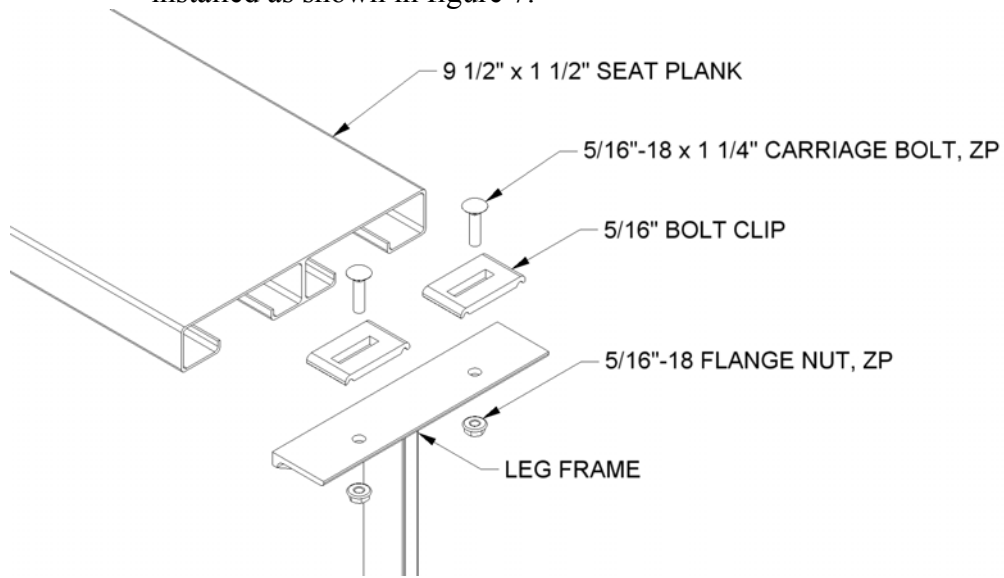
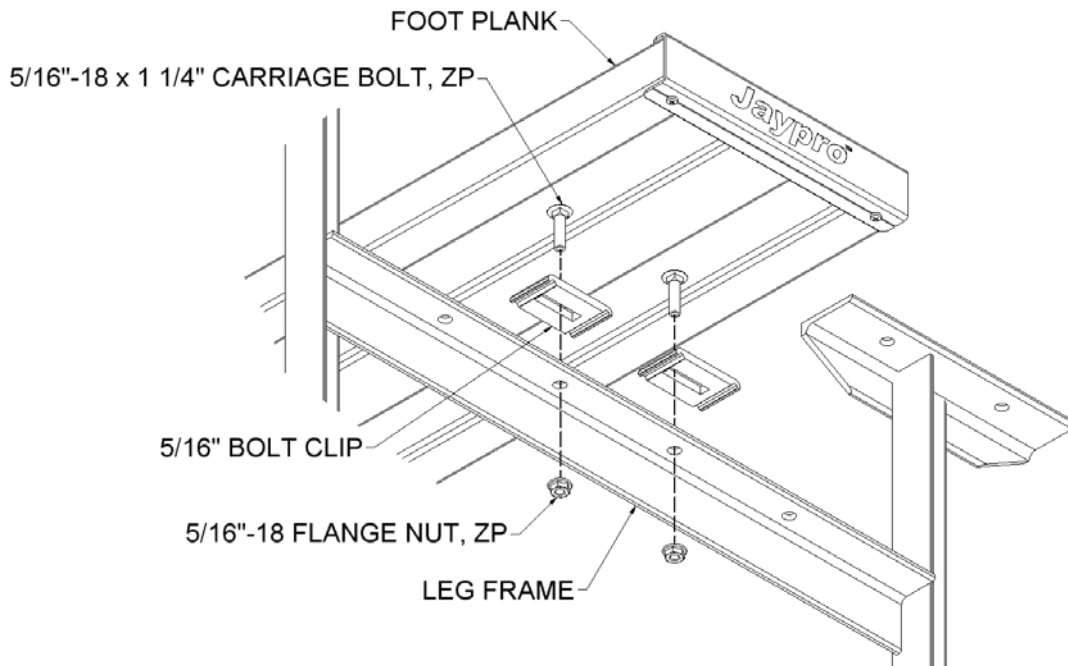
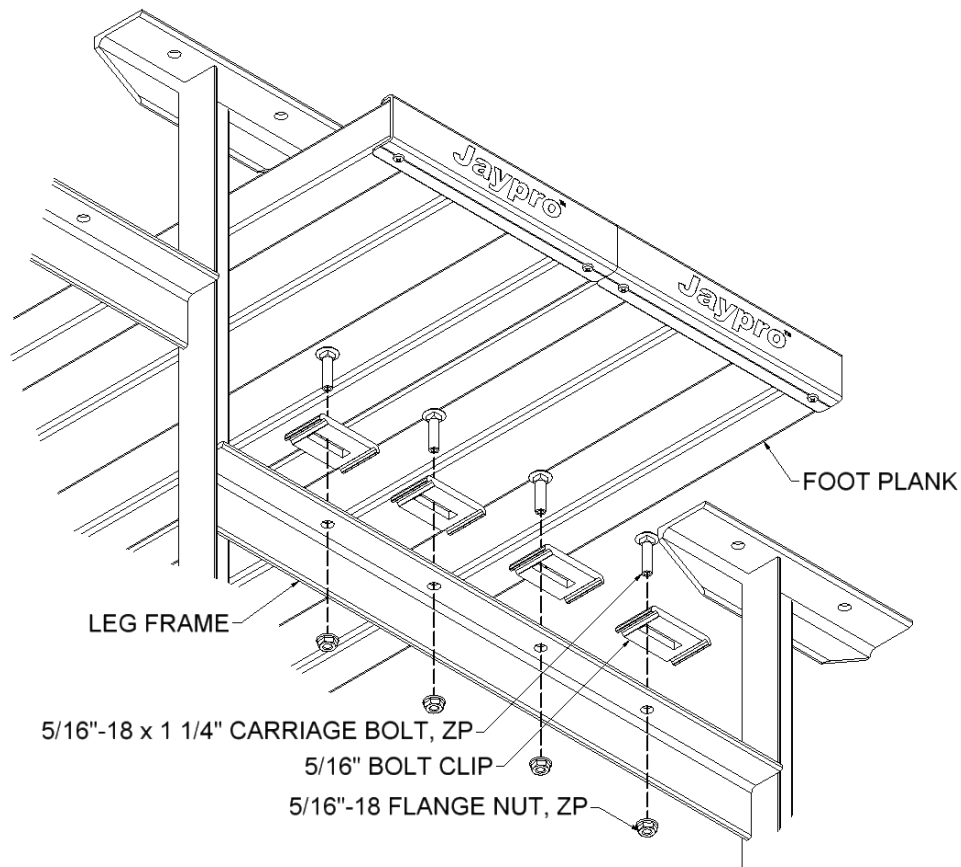

FIGURE: 5
FIGURE: 6
FIGURE: 7
5. Making sure the undercarriage frame is square and plumb, install the seat and foot planks. The seat and foot planks are best installed starting from the front seat and working towards the back. Use the hardware and bolt clip as shown in figure 5. Position planks so they are centered on the frame, with equal amount of overhang on each end. Note that standard bleachers (BLCH-321AL & BLCH-321TRG) have a single foot plank, which is centered on the support frame, see figure 6. Preferred bleachers (BLDP-321AL & BLDP-321TRG) have double foot planks and are installed as shown in figure 7.